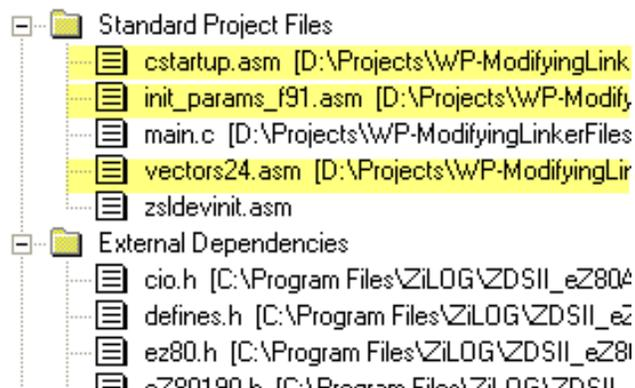

Figure 1. The Standard Project Start-Up Files
4. Copy the start-up files that require modification (highlighted in Figure 1) to the target project directory, and add these files to the project.